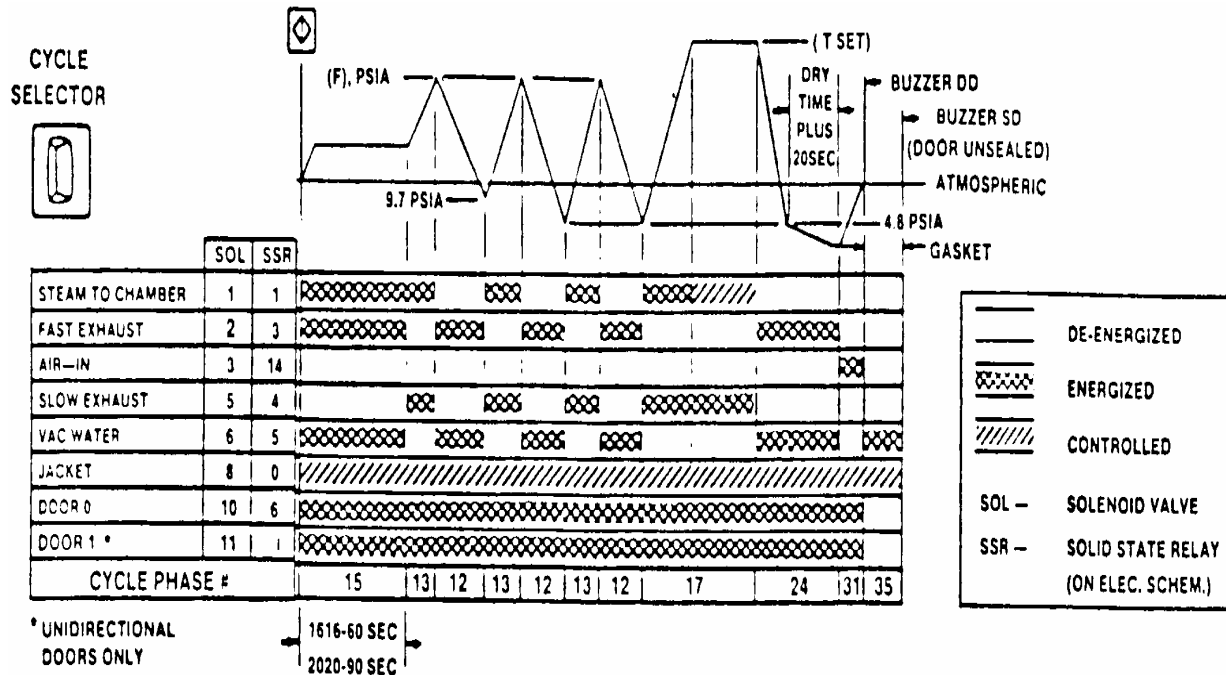

Figure 1-11. Wrapped goods cycle.
a. **Wrapped Goods Cycle.** Refer to figure 1-11.